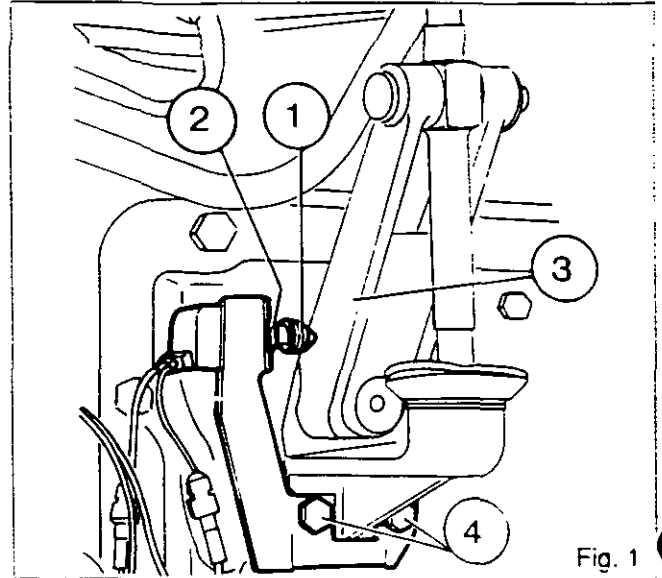

Fig. 1
The system is formed by a switch which bears against the gear lever (Fig.1) and by two relays mounted behind the instrument panel (Fig.2).
With bolts (4) and nut (2), position switch (1) so that it rests hard against gear lever (3) in the 4th gear position (Fig. 1)